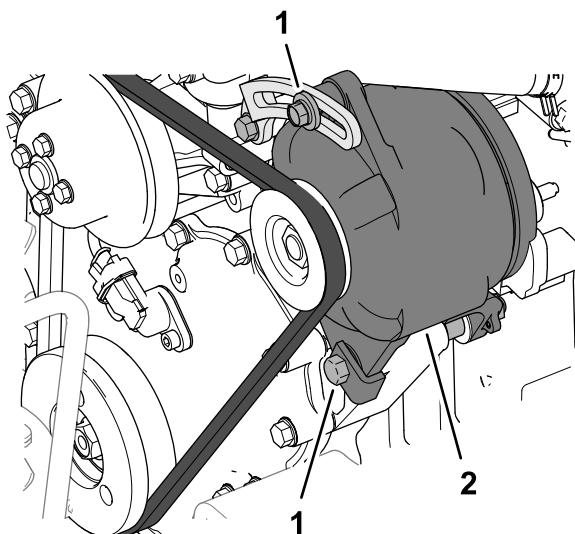

Figure 161
Check the condition and tension of the belts (Figure 161) after every 100 operating hours.
5. If belt deflection is more than or less than 10 mm (3/8 inch), loosen the alternator mounting bolts (Figure 161).